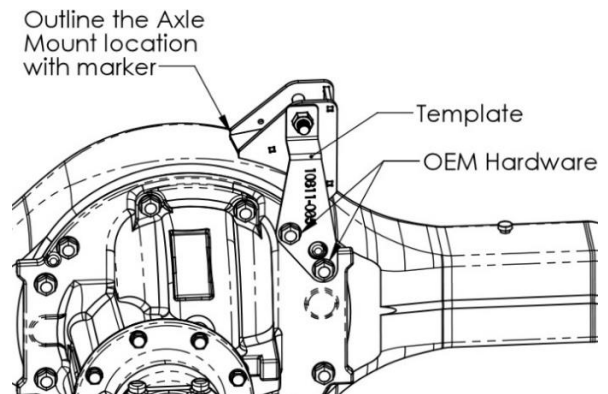

Figure 10, Position Axle Mount using Template
3. Temporarily attach the template to the axle using the two differential bolts. Using 7/8" hardware, fasten the Axle Mount to the template in the position shown in Figure 10.